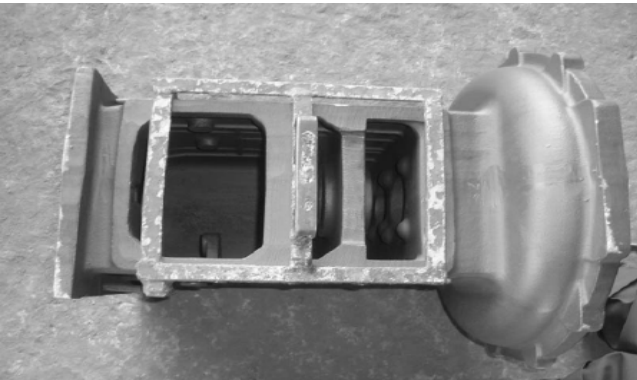

Fig. 27
2.8.1 Inspection innovation by suitably designed gauges to filter defective castings. These are simpler systems to implement during pilot lot stage of production (Fig.27).